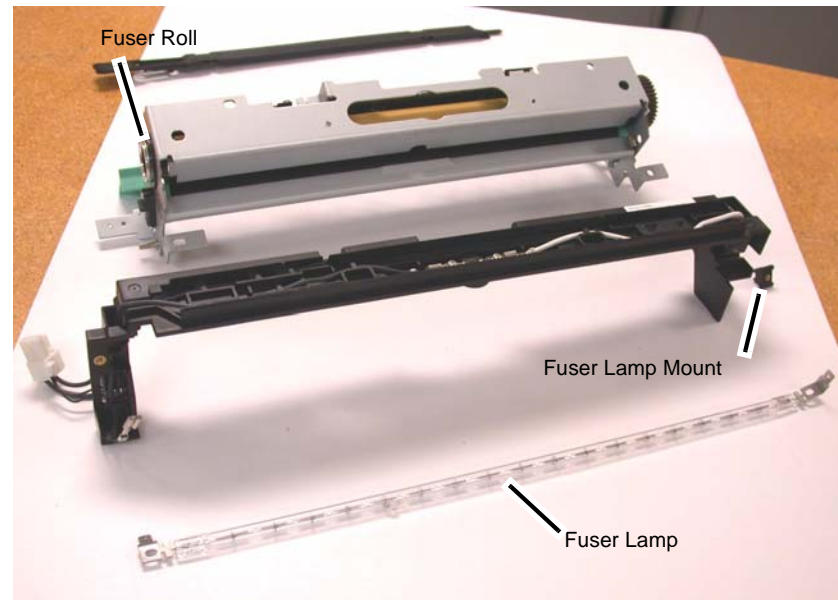

Figure 5 Removing the Fuser Lamp
6. Remove the Fuser Lamp by pulling it through the Fuser Roll (Figure 5).